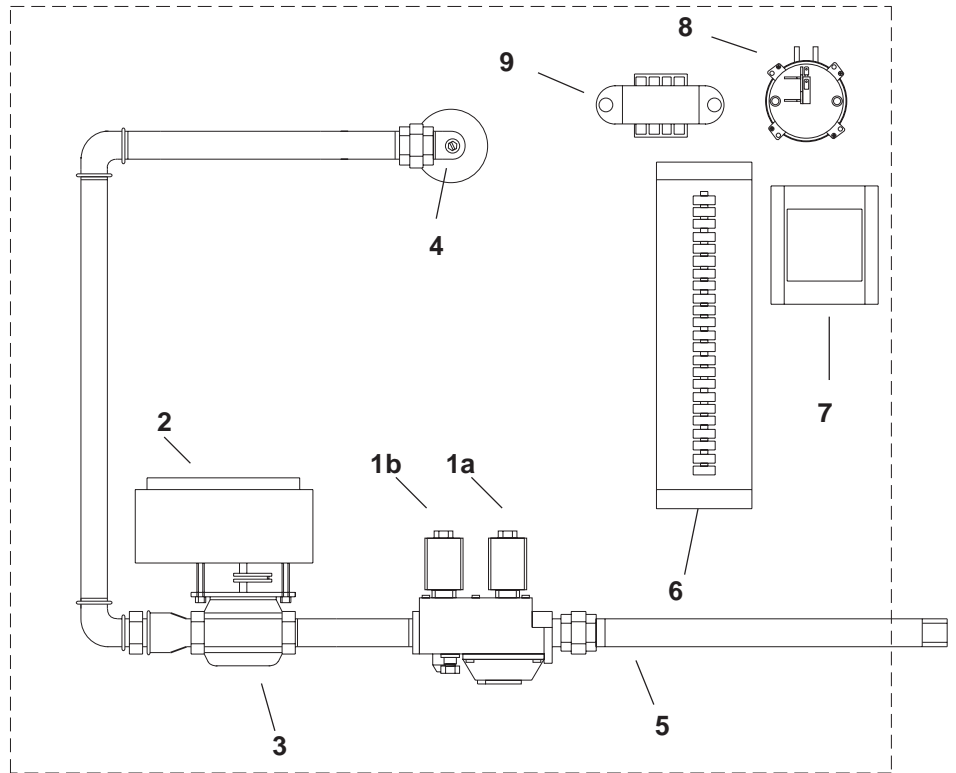

Fig 2b Gas Controls Layout DFU 250 - 1000
1. Remove the sealing screw from the pressure test point located on the pilot gas line (*Fig 2b/c - 7*) and attach a pressure gauge.
2. DFU 250 - 1000 Remove the electrical supply plugs from the main gas valves (*Fig 2b - 1*).
4. Check that the pilot gas pressure agrees with that in Tables 3.1 or 3.2. If necessary adjust the start gas pressure (*Fig 2b/c - 6*).